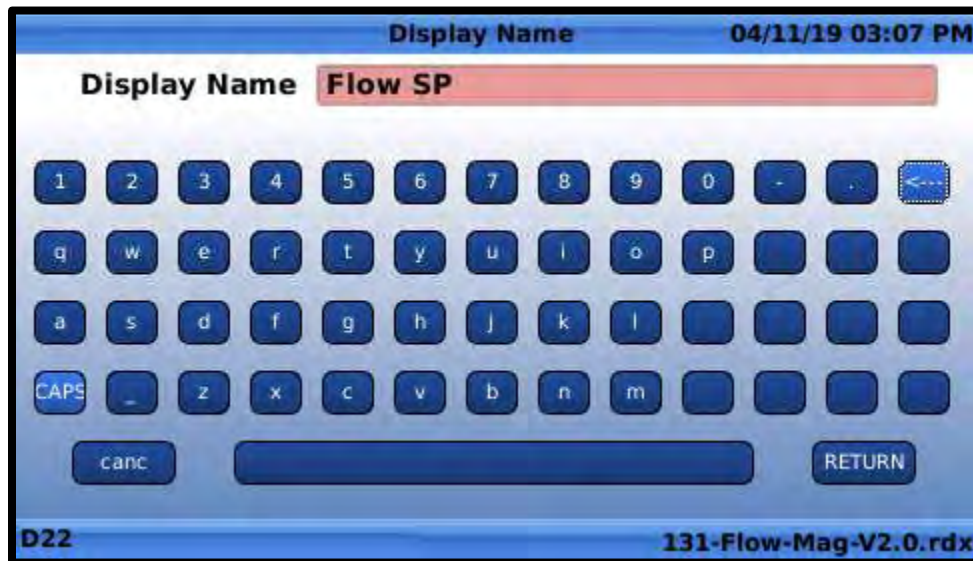

Figure 4.20
2. Press the “OK” button, and a screen keyboard will be displayed as shown in **FIGURE 4.20**: